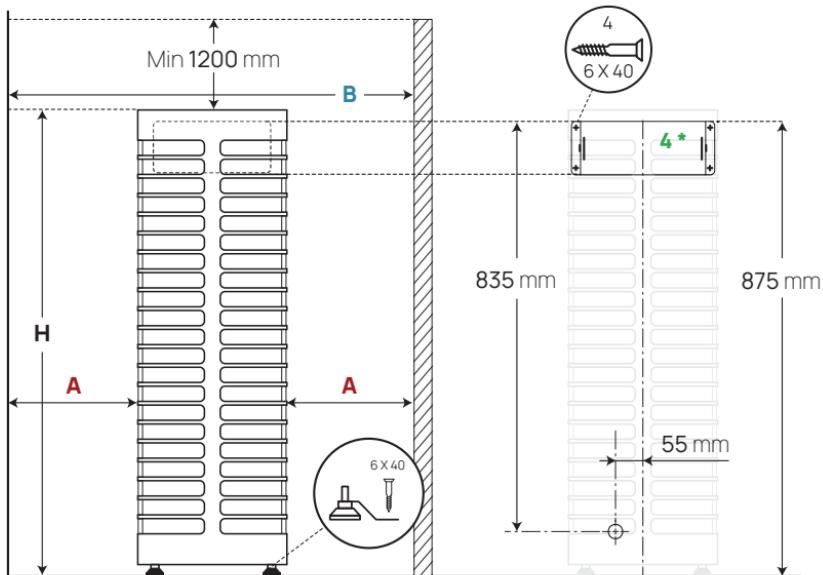

Figure 1 Positioning of the heater
- Are minimal safety distances ensured at the installation site of the heater? Minimal safety distances between the sauna room's ceiling and walls in view of installing the electric heater have been provided in **Table 1** and **Figure 1**.
- HUUM STEEL 6, 9 and 11 models** are attached to the floor using the included brackets. Install the bracket to the heater leg as shown in **Figure 1** and fix it with a screw corresponding to the construction of your floor (recommended min. 6 x 40mm).
- Attach **HUUM STEEL Mini 4** to the wall of the sauna room using the wall mounting plate included in the package. See **Figure 1**.